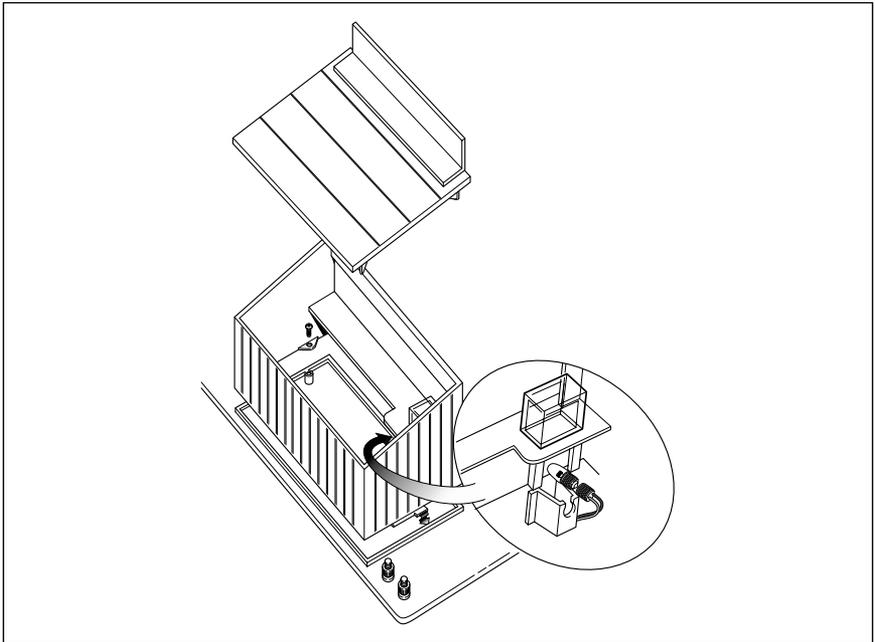

Figure 4. Lamp replacement
3. Remove the screw from the tab on the Hot Dog Stand wall. Located inside the building, the screw passes through the tab and into the base. Refer to Figure 4.